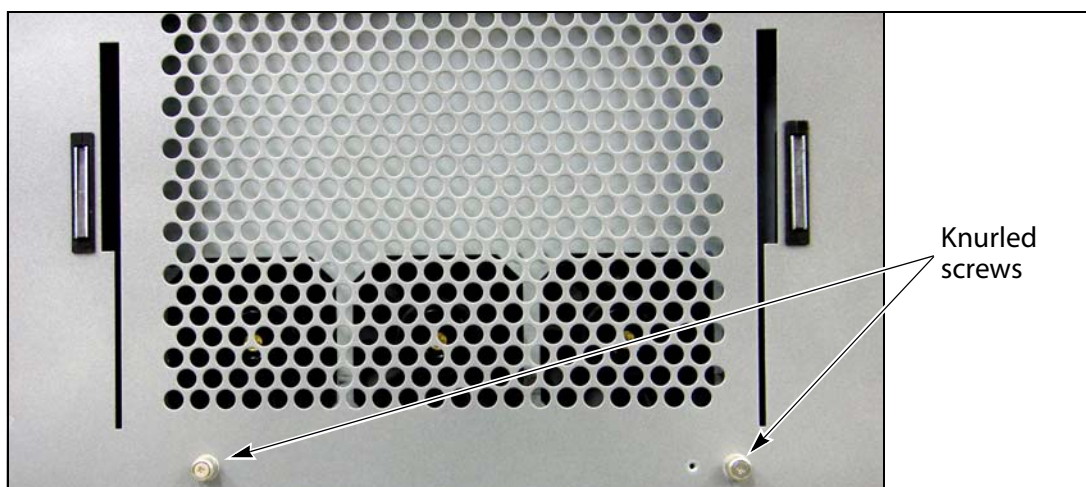

Figure 2-2 Removing the front panel screws.
4. Using your fingers or a #2 Phillips screwdriver, loosen, but do not remove, the two knurled screws securing the bottom of the library front panel to the chassis (Figure 2-2).